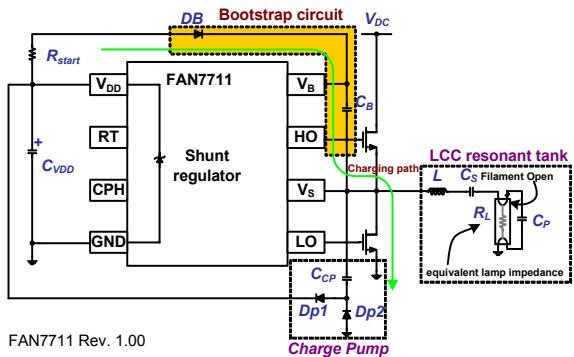

Figure 26. Implementation of Floating Power Supply Using the Bootstrap Method
When V_S is changing from high to low state, C_{CP} is discharged through Dp2, shown as path (2) in Figure 26. These charging/discharging operations are continued until FAN7711 is halted by shutdown operation. The charging current, I , must be large enough to supply the operating current of FAN7711.
The supply for the high-side gate driver is provided by the boot-strap technique, as illustrated in Figure 26. When the low-side MOSFET connected between V_S and GND pins is turned on, the charging current for V_B flows through D_B . Every low V_S gives the chance to charge the C_B . Therefore C_B voltage builds up only when FAN7711 operates normally.